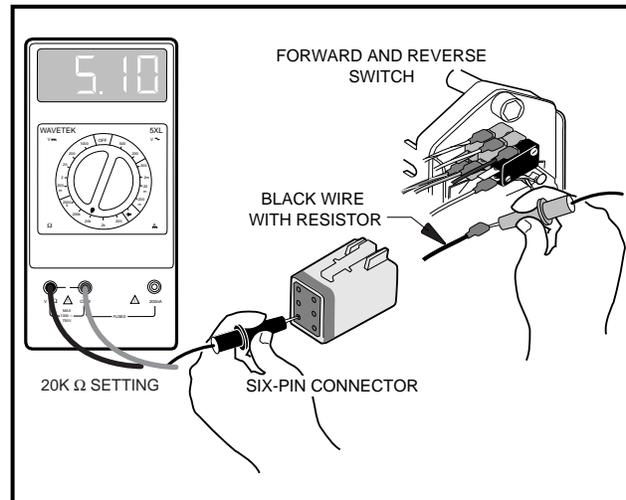

Figure 11-31 Test Half-Speed Reverse Resistor
1. Disconnect the batteries (negative cable first) and then disconnect black lead from half-speed reverse limit switch located on Forward/Reverse switch (**Figure 11-31, Page 11-22**).
- 2.2. With multimeter set to 20K ohms, measure resistance through 18 gauge black wire from Forward/Reverse wire harness (at disconnect from six-pin connector) to end disconnected from Half-speed Reverse Limit Switch. Resistance should measure approximately 5100 ohms ($\pm 10\%$) (**Figure 11-31, Page 11-22**).